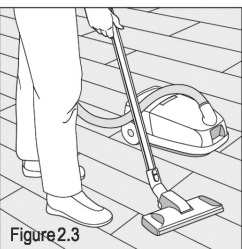

Figure 2.3
- Dust, sweep and vacuum floors regularly. When using a vacuum cleaner, disengage the beater bar or use the "bare floor" setting to avoid damaging your floor. The vacuum head must be brush or felt, a wand attachment is preferable. (Figure 2.3)